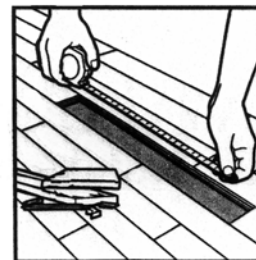

Figure 7-7
- C. Measure the opening and cut replacement board to size. Figure 7-7.